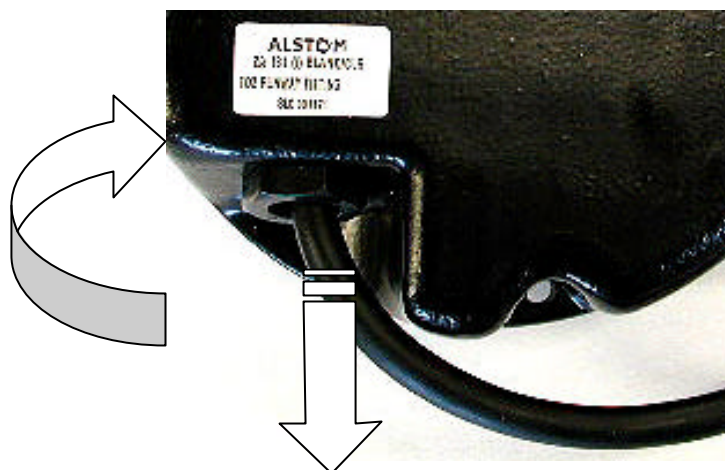

Fig. 13. Detail of cable entry & gland arrangement.
- Release the cable gland and withdraw plug lead gland assembly from bottom casting. (See **Fig. 13**).